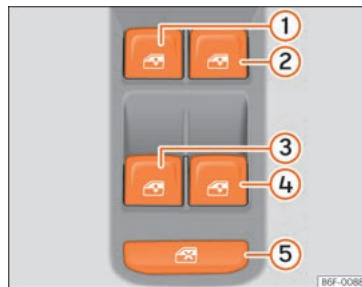

Fig.148 Detail of the driver door: controls for the windows.
The safety switch  **Fig. 148 ⑤** on the driver door can be used to disable the electric window buttons on the rear doors.
Buttons **»» Fig. 148** , ,  and  have two positions for opening windows and two for closing them. This makes it easier to open and close windows to the desired position.